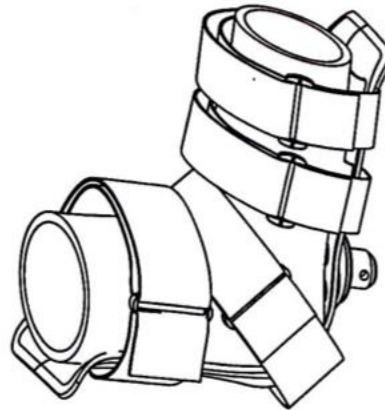

Figure 3-4. Traction Boot Assembly
- a. Apply Traction Boot Assembly (see Figure 3-4) to patient's anatomy and secure with hook and loop fastener system attached to foot support.